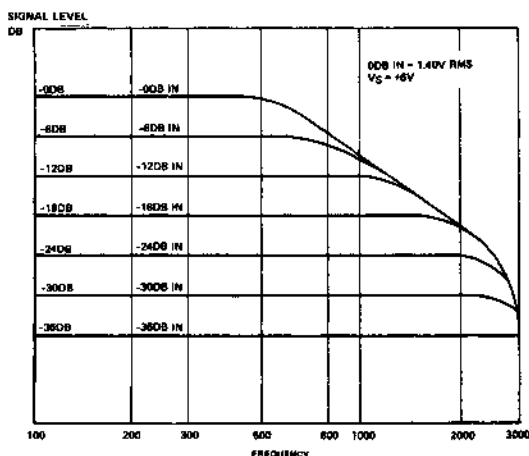

Figure 1 — Transfer Function for CVSD at 16KB
13. For large signal amplitudes or high frequencies, the encoder may become slope-overloaded. Figure 1 shows the frequency response at various signal levels, measured with a 3kHz low-pass filter having a 130dB/octave roll-off to -50dB. See Table II.